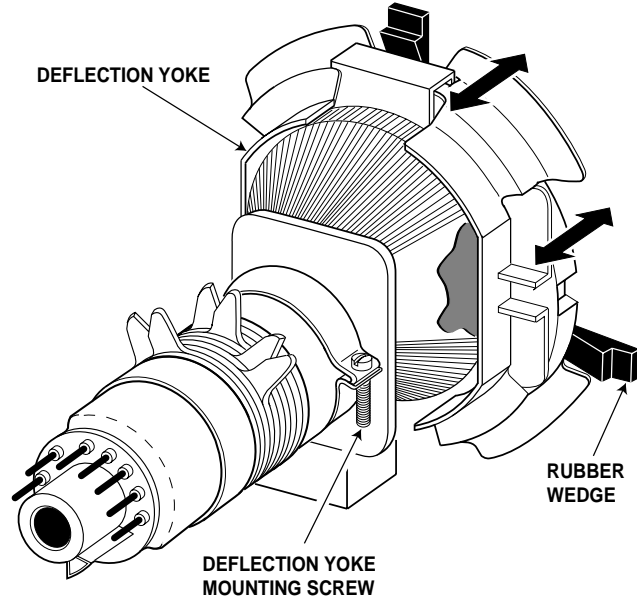

Figure 1. Deflection Yoke Movement
1. When replacing picture tube or deflection yoke, mount deflection yoke and purity-convergence magnets assembly properly. See Figure 1. Position the picture tube facing east or west. Demagnetize the picture tube and receiver using an external degaussing coil. Set receiver to Service Menu No. 042 (no vertical sweep) while degaussing.